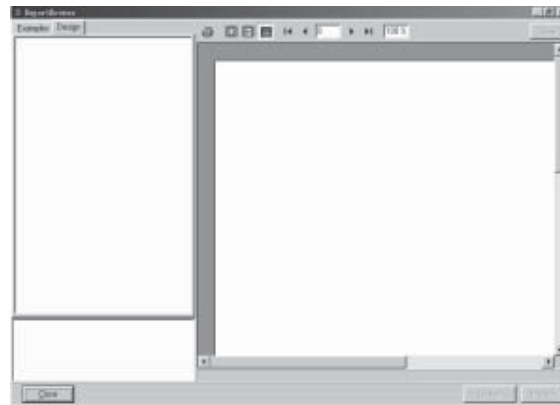
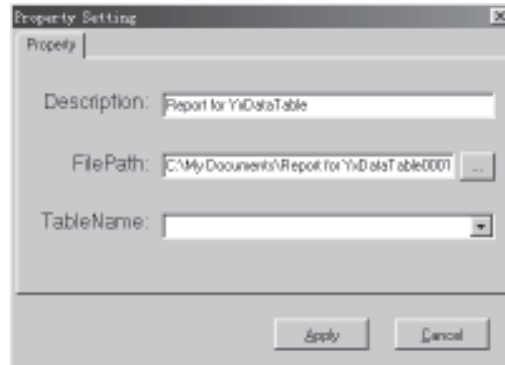
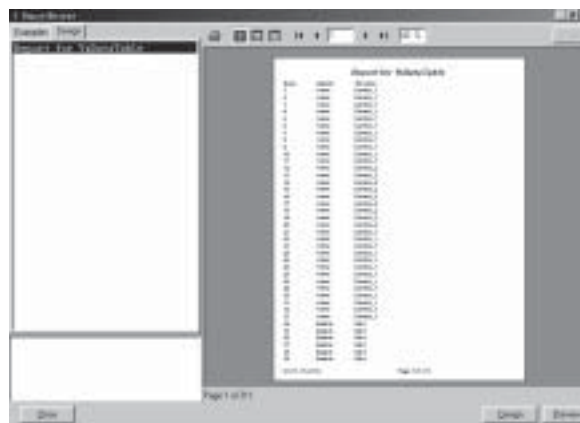

Fig. 8-21 Select the Page Key ;°Design;±
Fig. 8-24 Entering the Options
Fig. 8-25 The Page After Clicking the button `°Apply;`
2. Design the Report: Select the page key ;°Design;±and the listing table is empty if opened for the first time, as in Fig. 8-21.
In Fig. 8-21, enter the name describing the use of the report in the position of `°Description;` and the path and name of the report in the position of `°FilePath;` or click the button `...` to open the dialogue block of selecting the files to be opened. Then click the button `°Apply2;` in Fig. 8-24. And at the same time, a new record is added to the listing table frame as in Fig. 8-25.